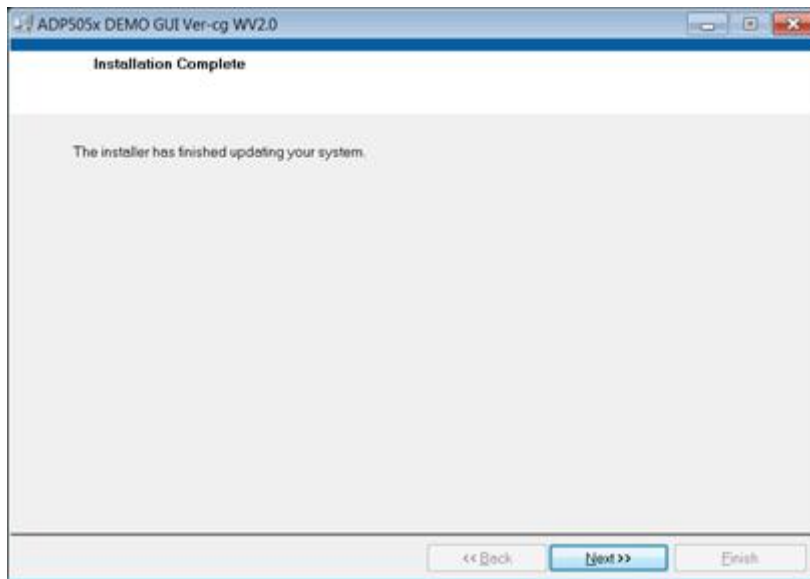

Figure 5. Install Shield Wizard Complete
4. Click **Finish** to complete the installation (see Figure 5).